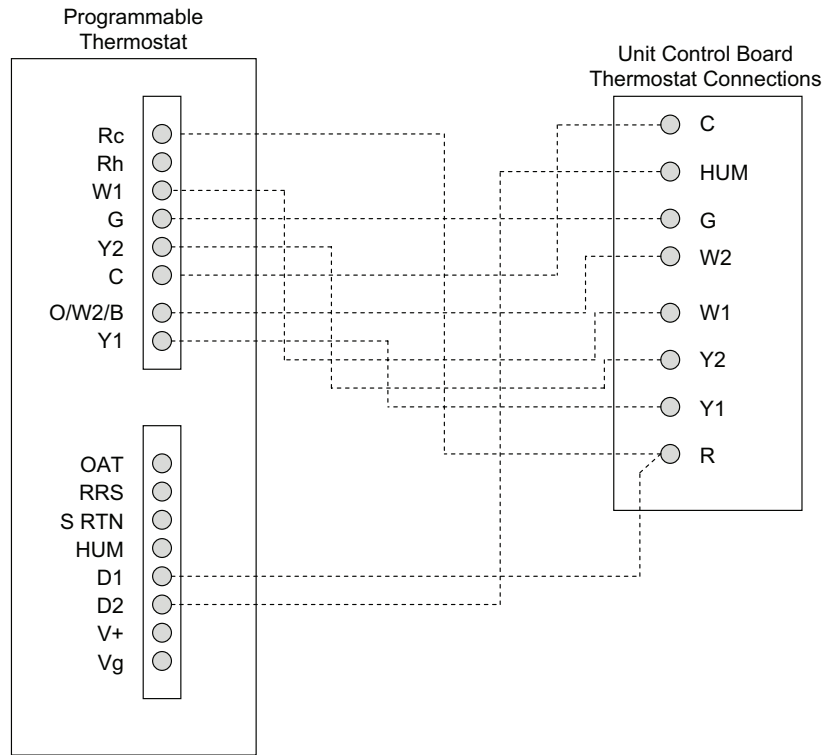

Fig. 57 — 48FC20-30 Unit with Humidi-MiZer Adaptive Dehumidification System with Edge® Pro Thermidistat Device**
3. The Thermidistat has dry contacts at terminals D1 and D2 for dehumidification operation (see Fig. 57). Connect D1 to